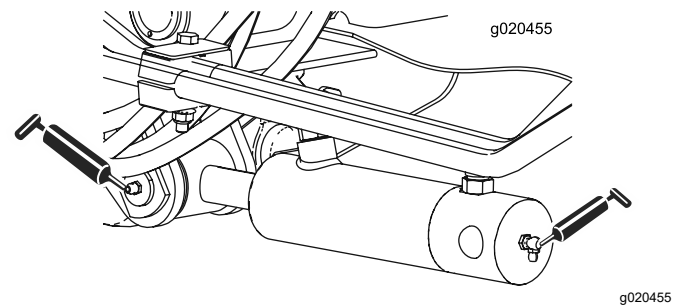

Figure 79
- 2 (each side) lift-arm-cylinder bushings (Figure 79)